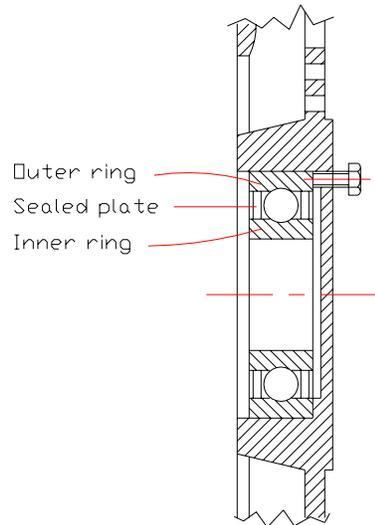

Fig. 39
- e) Should the bearing be removed with the end cover (Fig. 39) then use a hexagonal bolt to push the bearing from the housing applying the force to the outer ring only.